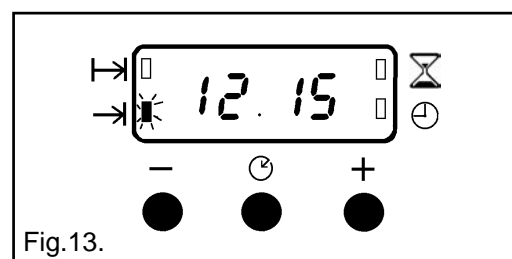

Fig.13.
- i) To stop the sound press any of the buttons, as Fig. 13.